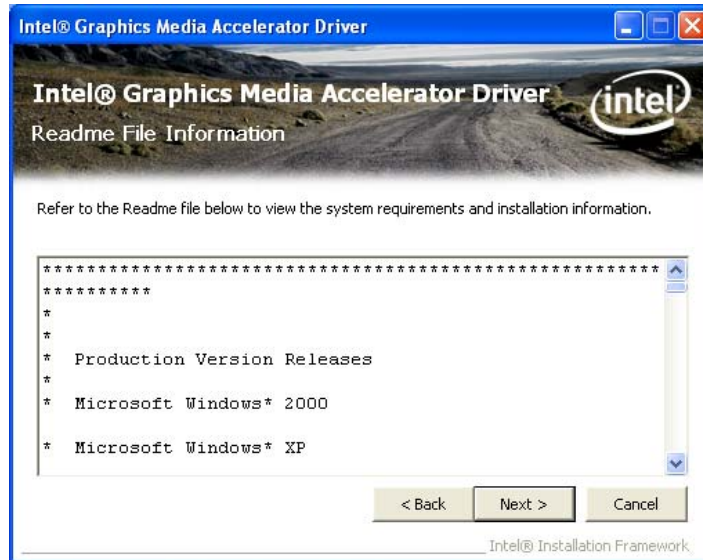

Figure 7-14: VGA Driver Read Me File
Step 11: The Readme file in Figure 7-14 appears.